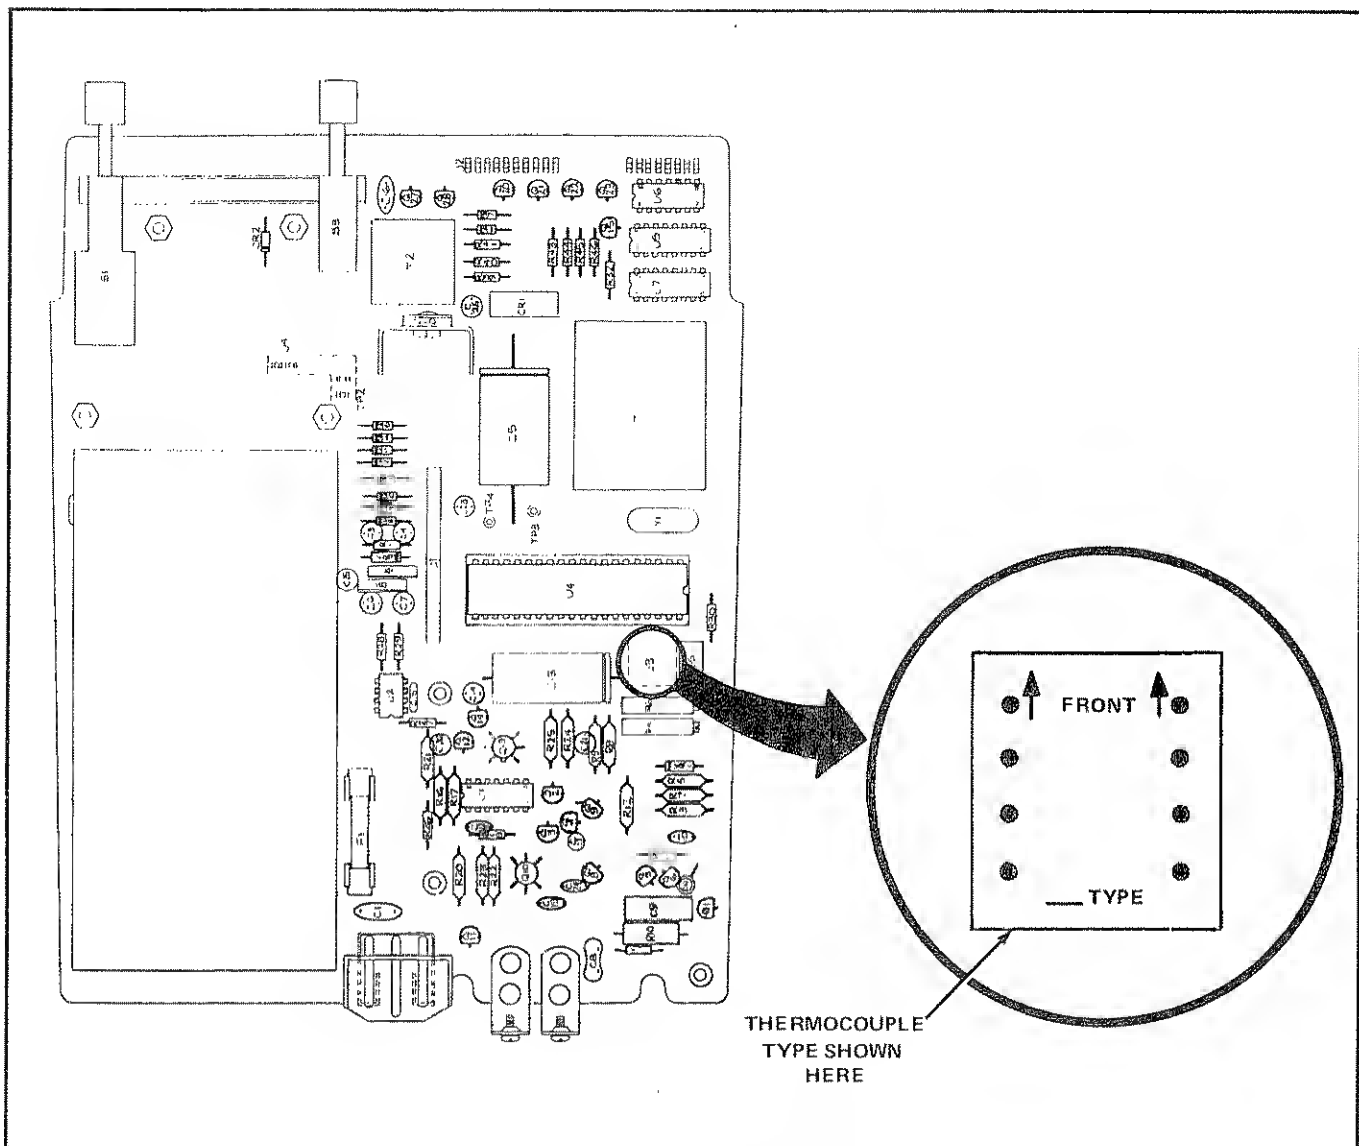

Figure 2-3. TYPE SELECT PCB, LOCATION AND INSTALLATION DETAILS
- g. Unplug and remove the currently installed type select pcb from the position shown in Figure 2-3, and install the new pcb in its place.